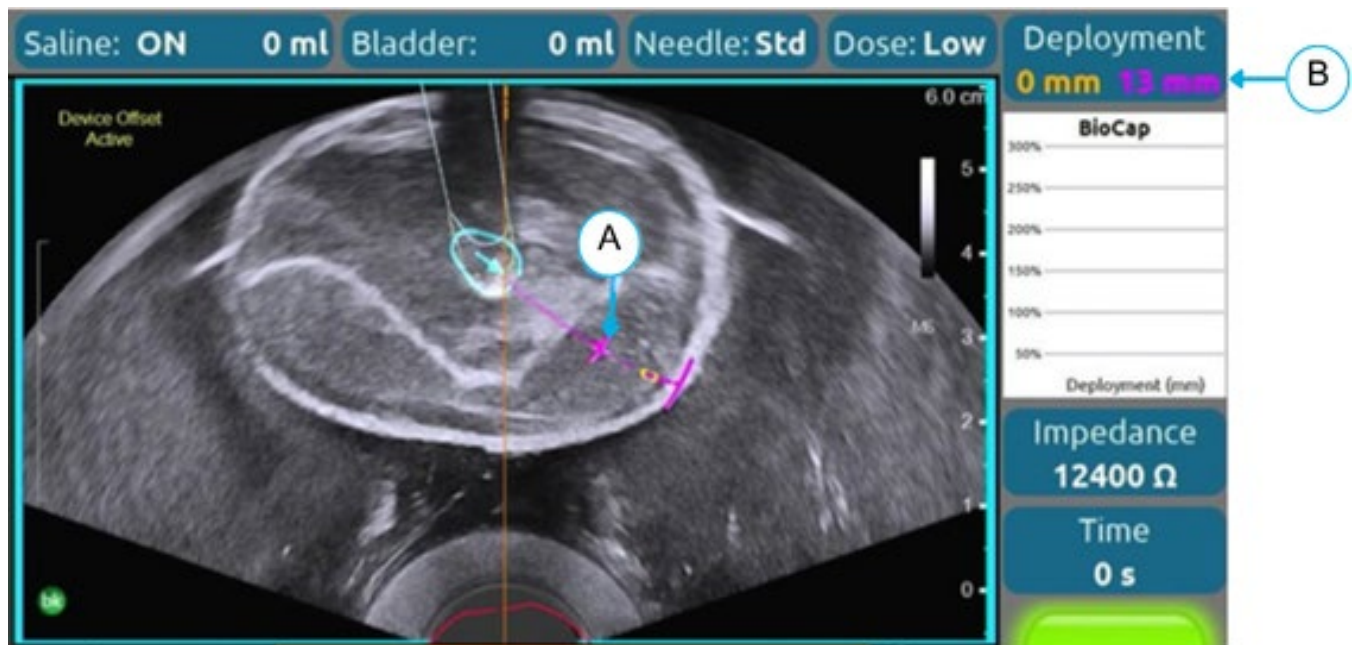

Figure 12-15: Initial Deployment Length
■ **NOTE:** The initial deployment length will display a solid line representing the distance along the predicted Needle trajectory (**A**). The initial deployment length will also be displayed in mm on the PUI in the upper right corner (**B**) (**Figure 12-15**).